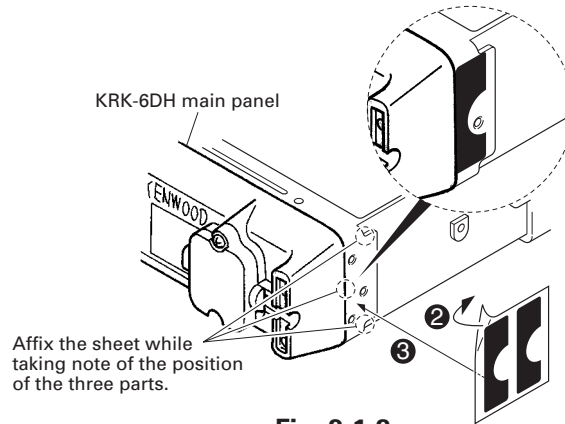

Fig. 3-1-2
4. Affixing the sheet (G11-4379-04) for the waterproof (Fig.3-1-2).
- (1) Remove the covering paper of the sheet (2).
- (2) Affix the sheet while taking note of the position of the three parts as shown in Fig.3-1-2 (3).
- (3) Repeat step (2) to affix the sheet to the other side of chassis.